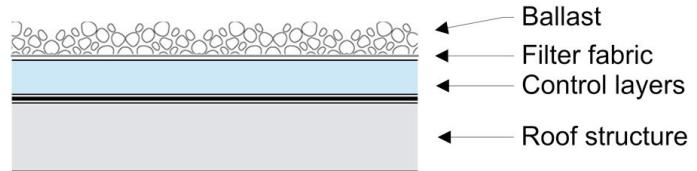
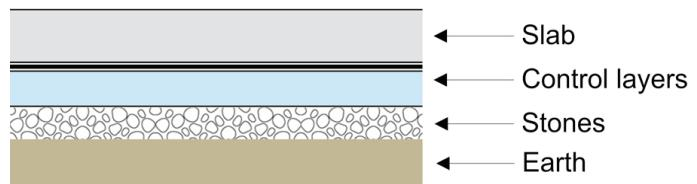
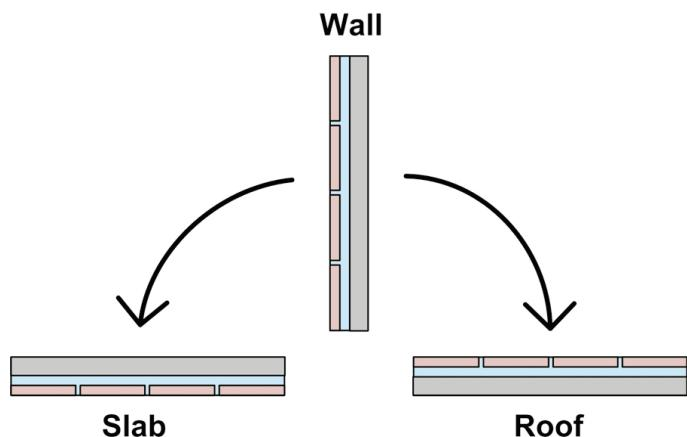

Figure 2: “The Perfect Roof”
Figure 3: “The Perfect Slab”
Figure 4: A Wall Is A Roof Is A Slab
In a beautiful bit of elegance and symmetry if you lie the perfect wall down you get the perfect roof (**Figure 2**) and then when you flip it the other way you get the perfect slab (**Figure 3**). The physics of walls, roofs and slabs are pretty much the same – no surprise (**Figure 4**). This insight was shone into a whole generation of practitioners by Max Baker (4) when I was first getting started.